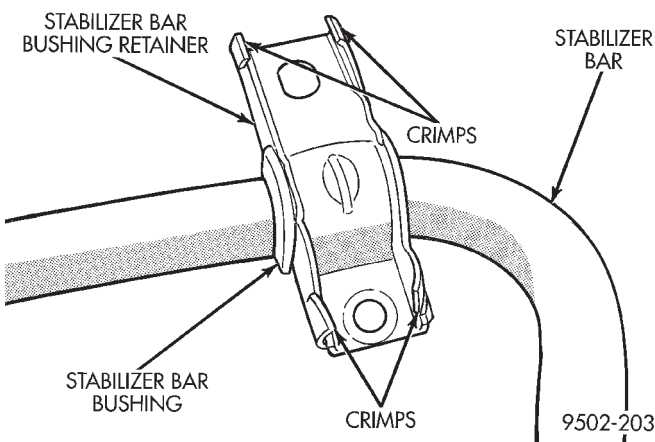

Fig. 94 Stabilizer Bar Bushing Retainer
(1) Bend back the 4 crimp locations on the stabilizer bar bushing retainer (Fig. 94).